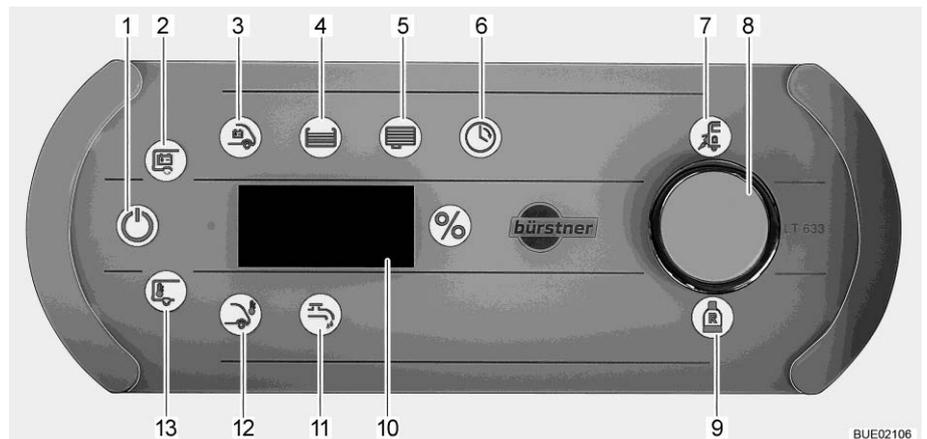

Fig. 184 Panel LT 633
The mains check symbol (Fig. 184,7) lights up when the vehicle is being supplied with 230 V line voltage. The batteries are charged.
- Briefly press the rotary knob (Fig. 184,8). The 12 V ON symbol (Fig. 184,1) is lit. When the 12 V ON living area battery (Fig. 184,2) symbols flash three times, the power supply has been deactivated.
- Press and hold rotary knob (Fig. 184,8) for approx. 5 seconds. The living area battery symbol (Fig. 184,2) is flashing and "On" appears on the display (Fig. 184,10).
- Release the rotary knob. The 12 V ON symbol (Fig. 184,1) is lit. The power supply has been switched on.
- Turn the rotary knob until the water pump symbol (Fig. 184,11) lights up. The current switching state ("On" or "OFF") is shown on the display.
The water pump symbol (Fig. 184,11) lights up when the water pump is switched on.
- Turn the rotary knob until the living area battery symbol (Fig. 184,2) lights up. The battery voltage of the living area battery appears for approx. 20 seconds on the display (e.g. "13,8U" for 13.8 Volt).
- Turn the rotary knob until the starter battery symbol (Fig. 184,3) lights up. The battery voltage of the starter battery appears for approx. 20 seconds on the display.
- Turn the rotary knob until the water tank symbol (Fig. 184,4) lights up. The symbol "%" is lit. The fill level of the water tank appears for approx. 20 seconds on the display.
- Turn the rotary knob until the waste water tank symbol (Fig. 184,5) lights up. The symbol "%" is lit. The fill level of the waste water tank appears for approx. 20 seconds on the display.
- Gas reserve** The reserve gas bottle symbol (Fig. 184,9) lights up when the reserve gas bottle is in use.
- Turn rotary knob until the internal temperature symbol (Fig. 184,13) or the external temperature symbol (Fig. 184,12) is lit. The selected temperature appears on the display.
- Turn the rotary knob until the clock symbol (Fig. 184,6) is lit.